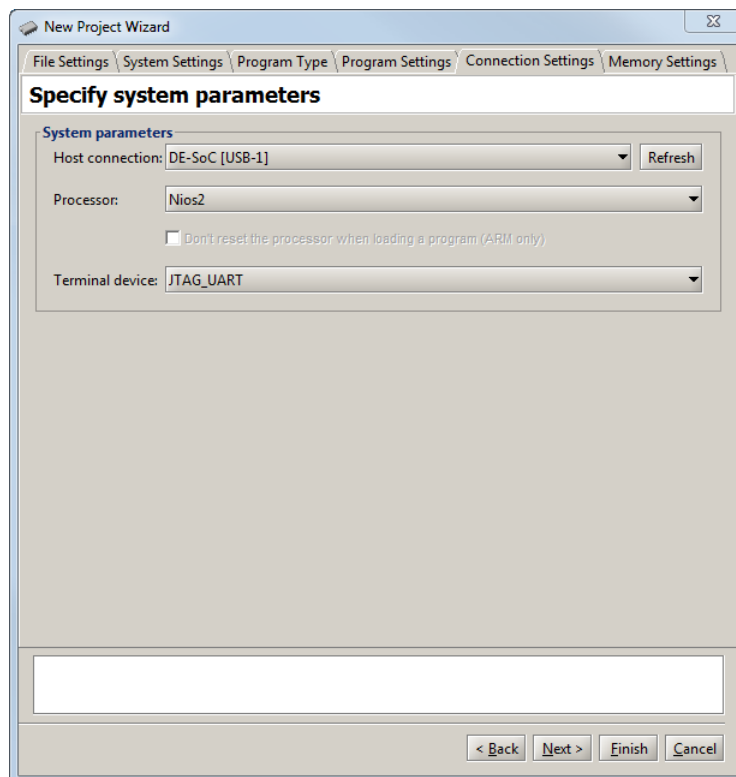

Figure 9. Specifying system settings.
4. Click **Next** to advance to the window in Figure 9. This window is used to specify the connection to the FPGA board, the processor that should be used (some hardware systems may contain multiple processors), and the terminal device. The **Host connection** drop-down list contains the physical connection links (such as cables) that exist between the host computer and any FPGA boards connected to it. The processors available in the system are found in the **Processor** drop-down list, and all terminal devices connected to the selected processor are displayed in the **Terminal device** drop-down list. We discuss terminal devices in Section 6.
Accept the default choices that are displayed in Figure 9. If the Host Connection box is blank, make sure that the DE1-SoC board is connected to the host by a USB cable and that its power is turned on. Then, press the **Refresh** button and select the USB Blaster as the desired choice. For the DE1-SoC board the required choice is DE-SoC.